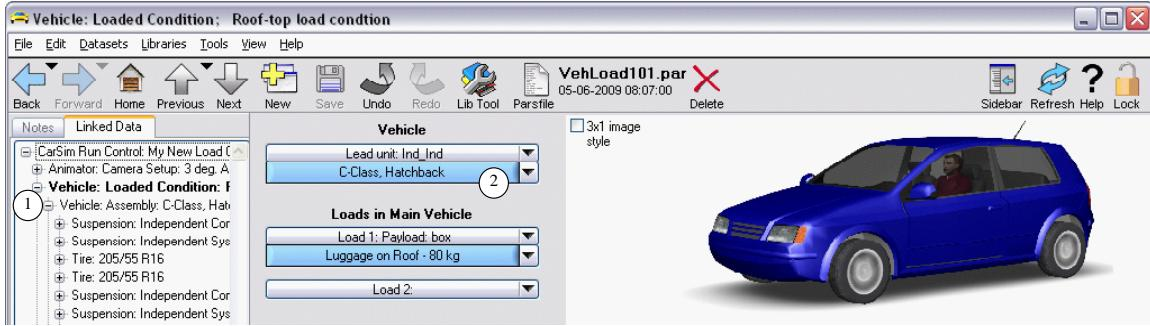

Figure 40. The **Vehicle: Loaded Condition** screen.
2. Click on the blue link button for the loaded vehicle ③ to go to that dataset (Figure 40). Notice that the **Linked Data** display now has the third line highlighted in bold ①, indicating that the **Vehicle: Loaded Condition** screen is in view.